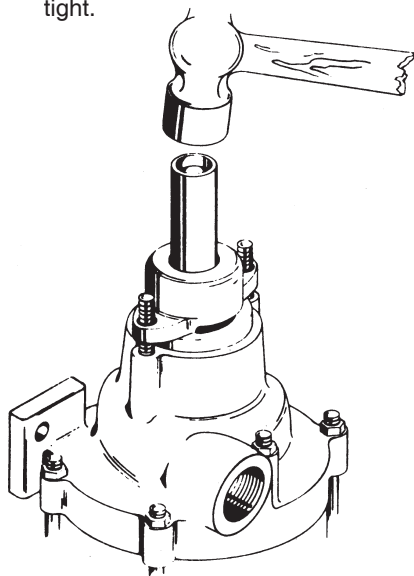

Figure 4-19
33. Place a metal support under the shaft opposite the extension. A 3/8" or 1/2" nut works well. The pump will be unstable in this position. It is well to have necessary tools at an easy reach. Drive the bearing arm assembly onto the shaft until the bearing rests against the shoulder provided. Driving should be done with a sleeve contacting the inner race only. (refer to figure 4-19) Secure with two nuts (#20), finger tight.